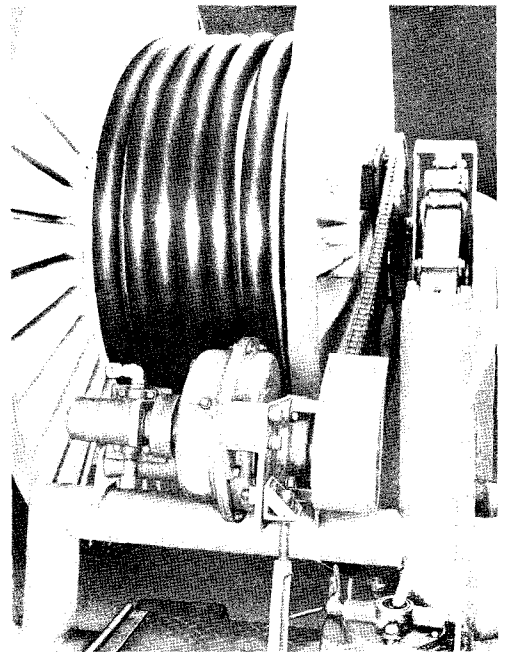

Fig. 1—AT-8490 Cable Take-up Drive
2.01 The AT-8490 Cable Take-up Drive (Fig. 1) includes an AT-8490 L1A Cable Take-up Drive and either an AT-8490 L2A Drive Mounting or an AT-8490 L3A Drive Mounting.